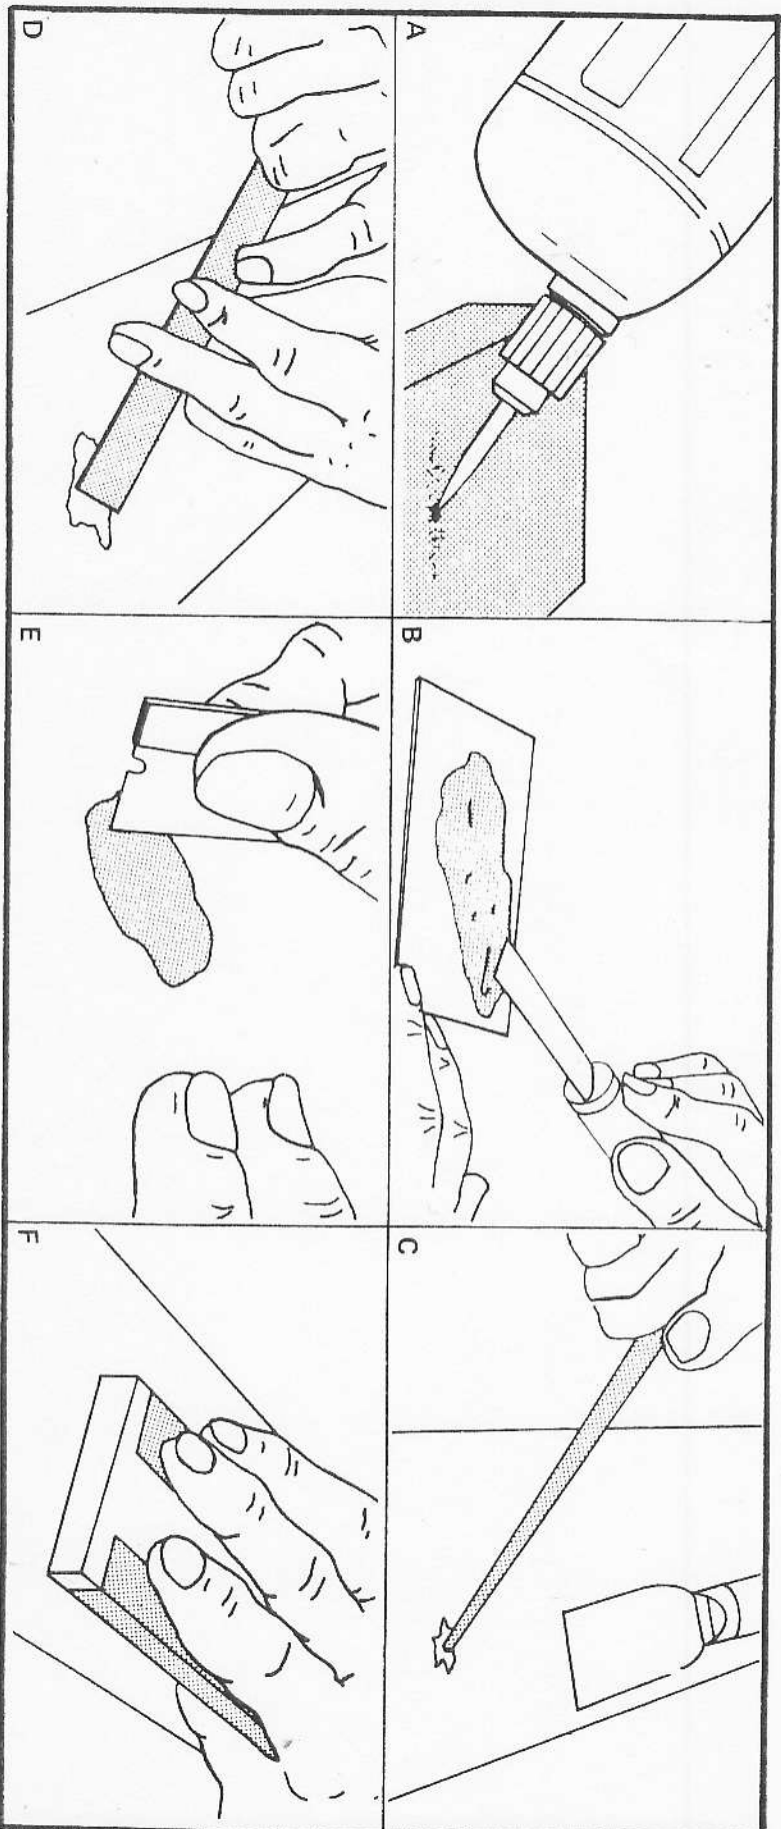

Figure 1
- Check measurement of wheel base on each side of car. The measurement from the center line of the front wheel axis to the center line of the rear wheel axis should be equal on each side. Refer to Figure 1. Shift the Torsion Tube Support to the left or the right until you achieve equal wheel base measurements. When this is accomplished, tighten all bolts. Using the remaining two holes on the Torsion Tube Support plate as a guide, drill two $9/16''$ holes into the Super Beetle chassis. Insert two sets of $1/2 \times 2''$ bolts, spacers, flat washers, lock washers and nuts supplied with the kit, as shown in the illustration, and tighten. At this time, recheck the wheel axis measurements on both sides of the frame to confirm that no shifting has occurred.